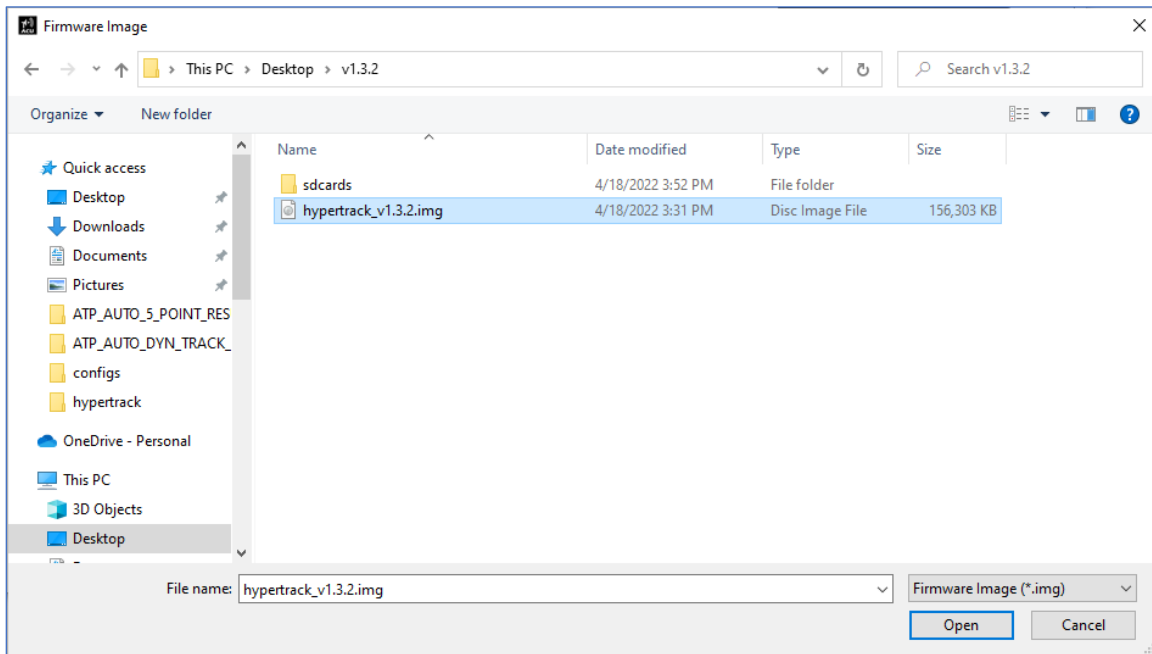

Figure 78: Windows Explorer with File Highlighted
1. After the firmware has been obtained from the factory and saved locally, the files can be accessed by selecting the Browse button, then searching for the Quasonix (update) firmware (Firmware Image *.img file), as shown in Figure 78. This process is used to update the Server (HTAC) Firmware only. The firmware located in the Feed Control Box is updated simultaneously.